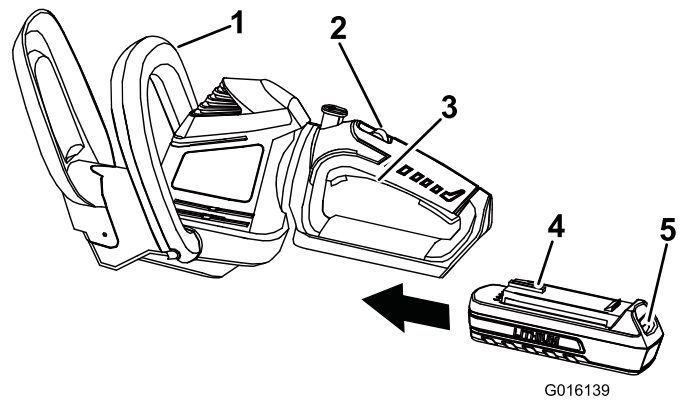

Figure 3
2. Align the tongue of the battery pack with the cavity in the handle housing (Figure 3).
- 1. Release the trigger switch (Figure 3).